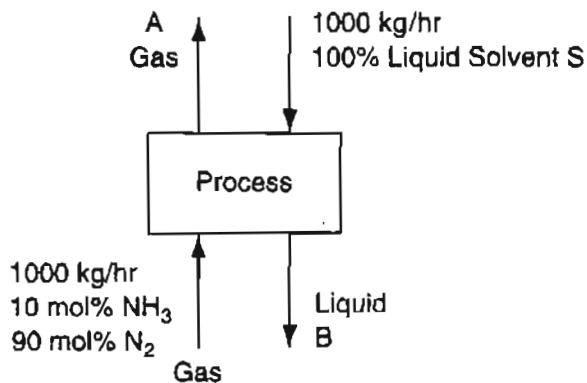

Figure P8.26
- ✓***8.26 Consider the following process for recovering NH_3 from a gas stream composed of N_2 and NH_3 (see Figure P8.26).
Given the data shown in Figure P8.26, calculate the flow rates and compositions of streams A and B.